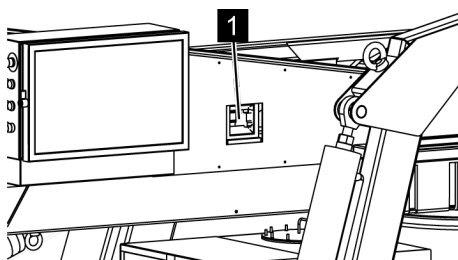

Fig. 153: Circuit breaker
2. → Open cover of the FI box (Fig. 153/1).
4. → Close cover of the FI box (Fig. 153/1).